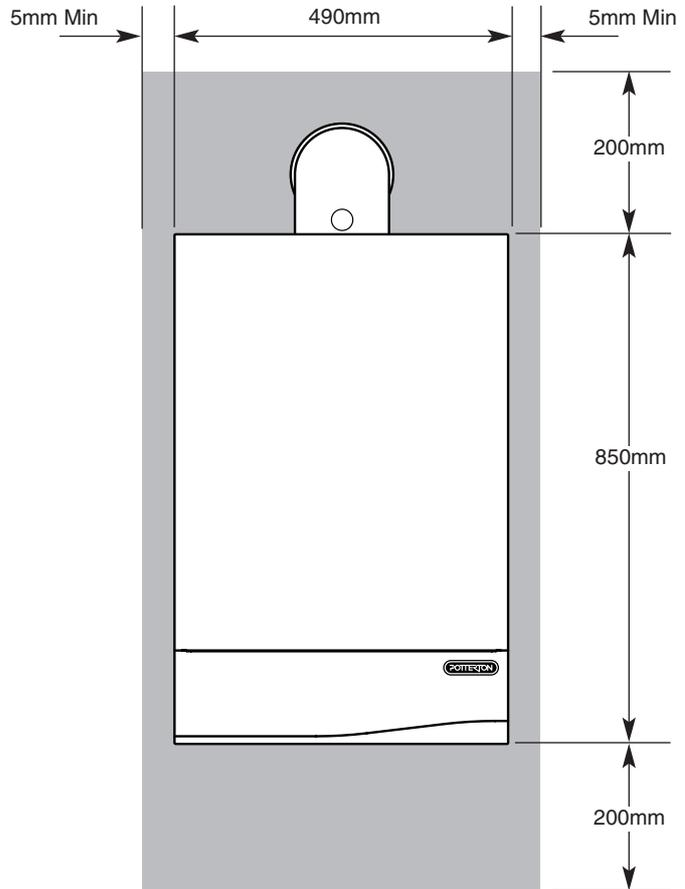

Fig. 12
7.2 Clearances (Figs. 12 & 13)